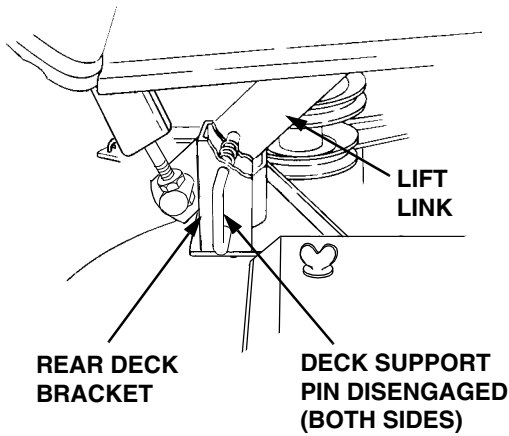

Figure 52
- Pull the deck support pins outward, turn downward and release so both spring-loaded pins are held in the disengaged position against the outer surface of the deck brackets (Refer to Figure 52).